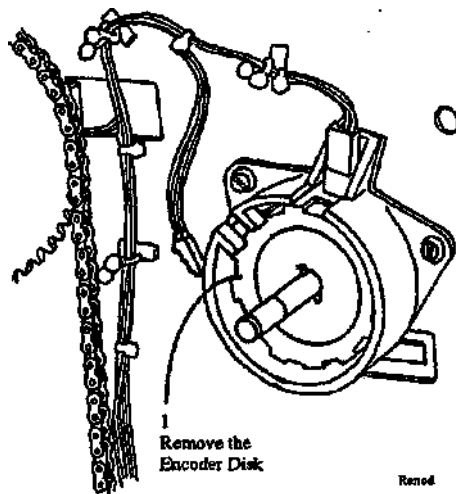

Figure 1. Removing the Encoder Disk
3. (Figure 1): Remove the Encoder Disk.